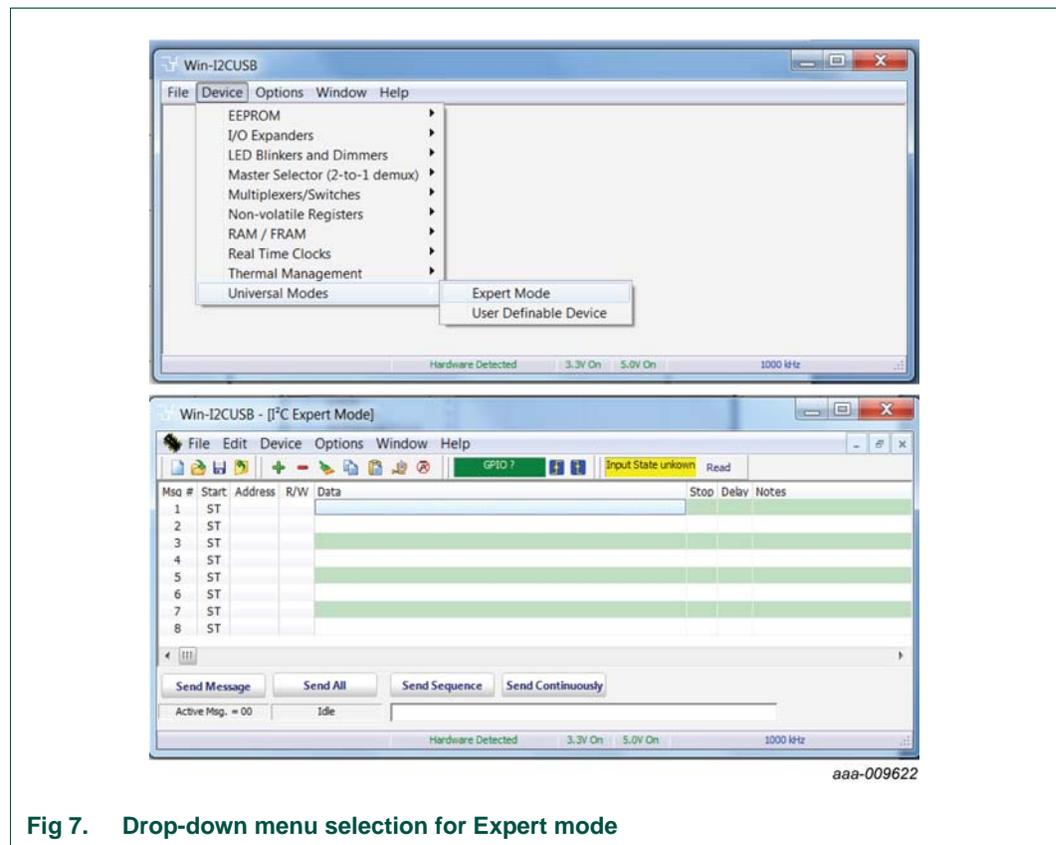

Fig 7. Drop-down menu selection for Expert mode
The PCA9955A/B is controlled by Win-I2CUSB GUI in Expert mode, as shown in Figure 7.
software. As shown in Figure 7, when the demonstration board hardware is correctly connected to the USB port and the computer recognizes it, the message 'Hardware Detected' is displayed on the bottom of the window.
1. From the 'Device' drop-down menu select 'Universal Modes', and from the subsequent drop-down menu select 'Expert Mode' as shown in Figure 7.